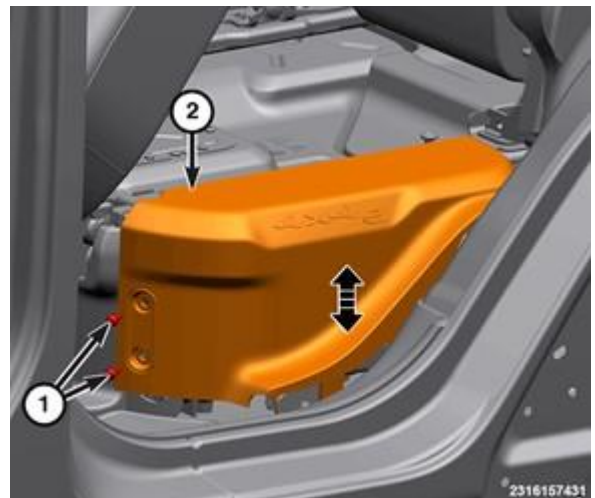

Figure 28 – HV Battery Side Trim
- 25. Remove the fasteners (1) from the side high voltage battery trim panels (2) (Figure 28).
42. Install the high voltage trim panel and press downward to seat the retainers (Figure 28).